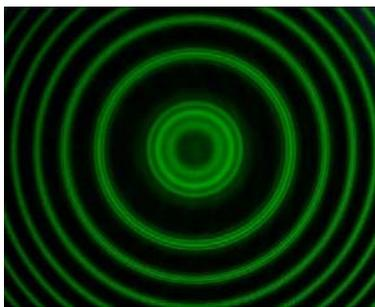
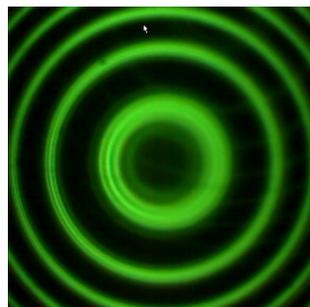

Figure 10: Well Aligned
Figure 11: Poorly Aligned
4. If the pattern is not uniformly illuminated (as in Figure 11), use the large black knob on the lens assembly to adjust the horizontal position of the lens. Use the other adjustment screws on the lens to make the illumination even vertically and horizontally.
5. Increase the power supply current to 5.0 A. The rings should split into triplets as shown in Figure 10. The rings should be sharply defined all the way around. If the pattern is like Figure 11, the plates of the interferometer are not sufficiently parallel. This is adjusted using the three silver knobs on the interferometer. You may also need to adjust the camera aperture and focus. This adjustment is a bit tricky. It is a good idea to put a pencil mark on each of the silver knobs to mark the initial vertical position and keep track of how far you have turned them clockwise or counter-clockwise. That way you can always start over. *Caution: if you go too far the knob will pop off.* This adjustment is critical for obtaining good results!